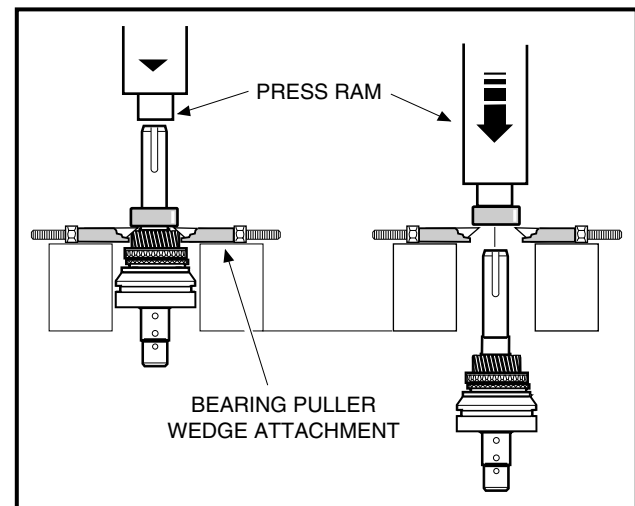

Figure 16b-57 Remove Bearing
- Use a small flat-blade screwdriver to remove two synchronizer springs (snap rings) (49), and then slide the synchronizer clutch hub (52) from the input shaft (54) (**Figure 16b-50, Page 16b-23**). See following **NOTE**.